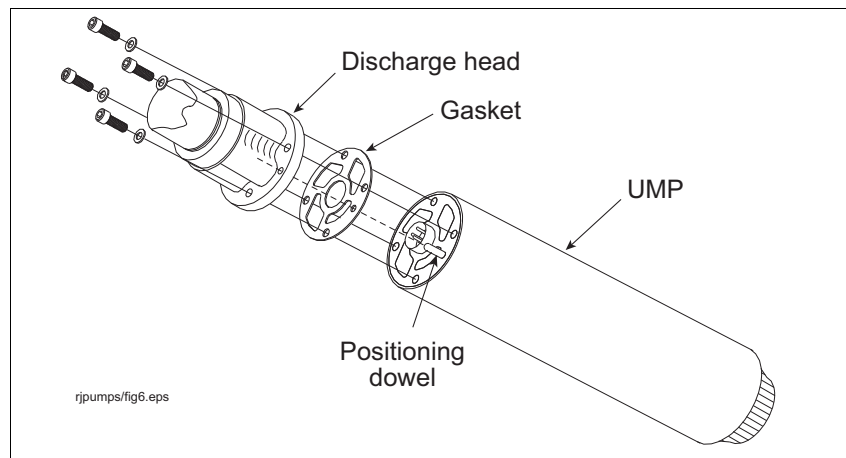

Figure 8. Aligning the UMP gasket
2. Place the new gasket on the new UMP so that all holes align (see Figure 8).
4. Install the UMP retaining bolts and lock washers (see Figure 8). Snug and then torque the bolts using a cross pattern technique. Torque to 7 ft-lbs (11 N•m).